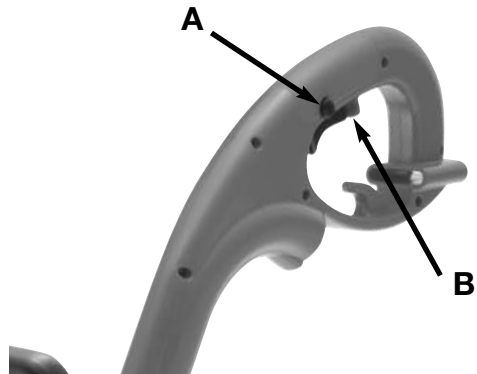

Fig. 4
To start the snow thrower, push the button (A) on the side of the handle grip and squeeze the trigger (B). To stop the product, release the trigger. (Fig. 4)